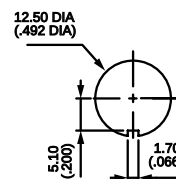

Fig. 2
- 2** For sealed mounting (see panel cut-out Fig. 2): 2 hex nuts 14mm (.551") across flats and 1 sealing washer U60. (See hardware section of catalog).